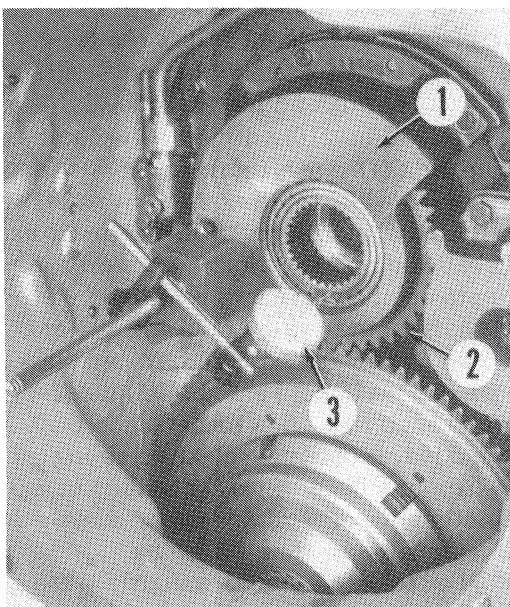

Fig. 216A—Use a dial indicator (3) to check end play of pto drive gear (2).
N·m). After 10 minutes, retorque oil pump cap screws to 20 ft.-lbs. (27 N·m). If pto drive gear (2—Fig. 216A), bearings or support (1) were renewed, check and adjust end play as follows:
Install drive gear and support with enough shims to ensure end play. Tighten support mounting screws to 20 ft.-lbs. (27 N·m). Install a dial indicator so indicator tip is against end of pto drive gear as shown in Fig. 216A. Move drive gear forward and rearward and note indicator reading. Remove dial indicator and support, then remove shims as required to obtain 0.001-0.004 inch (0.03-0.10 mm) end play. Reinstall support and tighten cap screws to 20 ft.-lbs. (27 N·m).